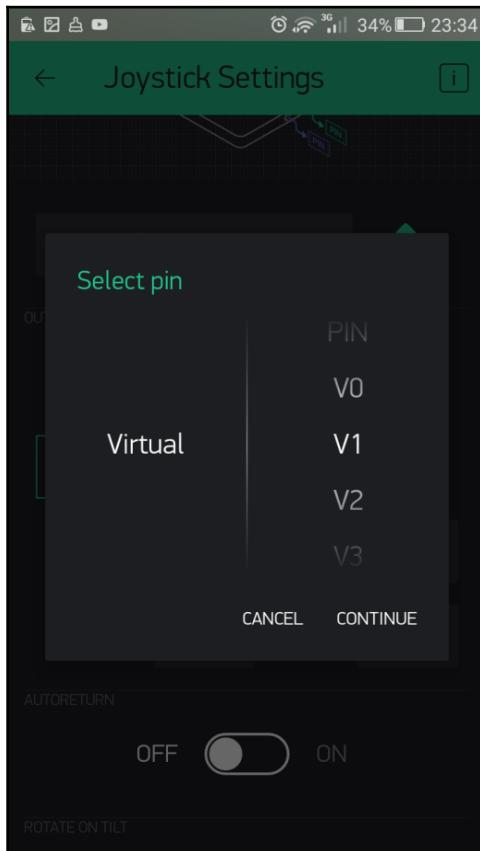

Figure 4.7: Selecting the virtual pin V1
- **MERGE mode** can be used with virtual pins only. Use the virtual pin **V1**. This will allow the joystick widget to write to pin **V1** (*Figure 4.7*):